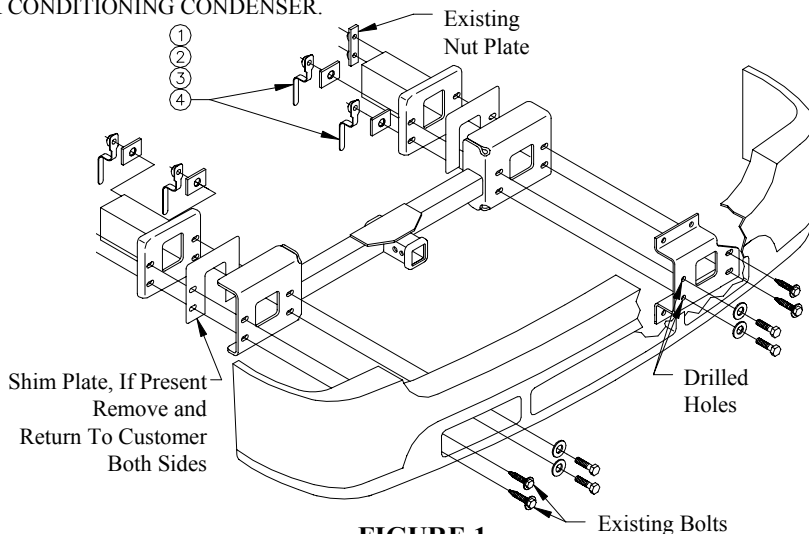
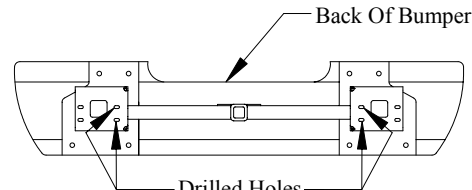
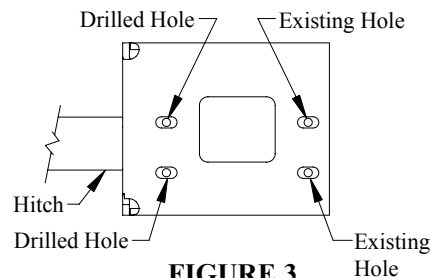

FIGURE 1
FIGURE 2
FIGURE 3
1. Remove six (6) bumper bolts, bumper and (2) shim plates if present.
3. Place bumper on protected surface to prevent scratching. Place receiver inside bumper. See Figure 2.
4. Loosen six (6) nuts to remove lower front cross member (if equipped).
5. Center receiver hole pattern side to side on bumper hole pattern. Mark location of drilled holes in bumper, in center of receiver slots. See Figure 3.
10. Reinstall bumper using four (4) fasteners removed in Step 1. Do not install shim plates.
11. Install remaining fasteners as shown in Figure 1. **CAUTION: HOLD DRIVER'S SIDE HANDLE NUTS IN PLACE TO PREVENT THEM FROM ROTATING INTO AIR CONDITIONING CONDENSER.**